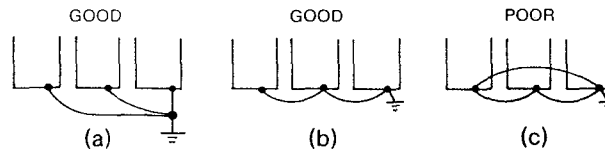

Figure 9. Grounding of Three Units.
- (1) Ground resistance should be 100 ohms or less.
- (2) Never ground the unit to the same common ground as welding machines, motors or other types of large electrical equipment. Run a separate ground lead for the Converter. Make the length as short as possible.
- (3) Even when the unit is grounded through a mounting, such as channel base or steel plate, you must still ground the unit using the ground terminal
- (4) Where several units are used side by side, all the units should be connected directly to ground. However, connecting all the ground terminals of the units together and grounding only one is also permissible (See Figure 9). Do not form a loop with the ground leads.